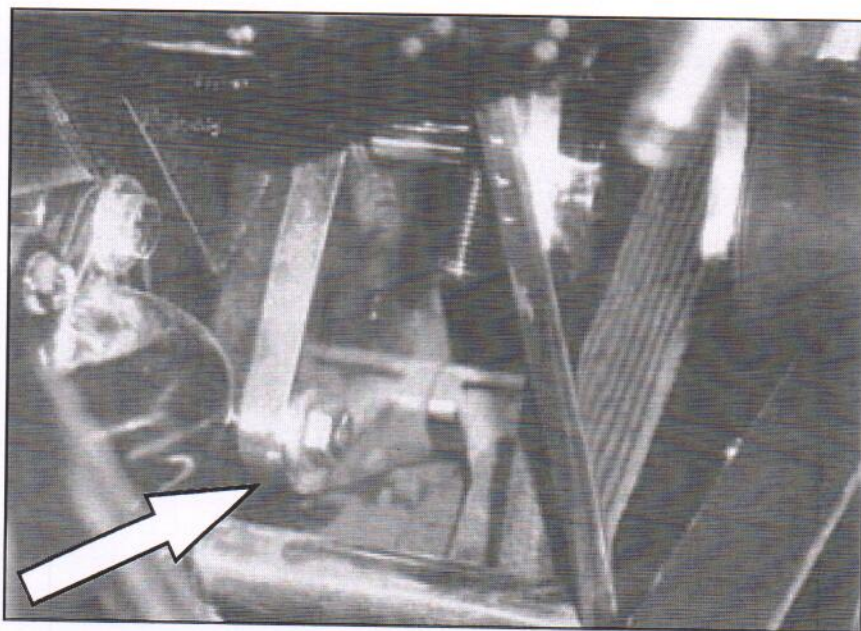

FIGURE D4
2. On the port side, bolt the supplied triangular shaped alternator bracket to the head using the lowermost head bolt hole and hole D2 (from figure D1) with the 7/16 x 1" bolt. The bracket should be oriented so that hole D1 matches up with the upper head bolt hole and the 3/8" hole (D3) sits in the lower of the two positions as shown in figures D4 and D5.
4. Reattach the factory alternator lower support bracket in its original position. Slide the alternator up so that the upper support hole is in front of hole D3 on the ATI alternator bracket and behind hole A4 on the supplied main bracket. Slide the 1.75" spacer between the alternator and the main bracket. Run the 3/8" x 6" (3/8" x 5.5" on SC system) bolt through the main bracket, spacer, alternator, and alternator bracket and thread the 3/8" nylon locking nut onto back side (see figures D4 and D9). Leave somewhat loose until you tighten alternator belt.